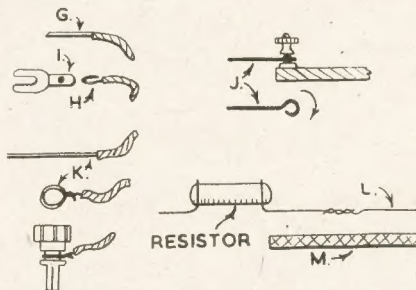

Fig. 3—Making proper connections
Good joints throughout are essential in any receiver. To fix spade-ends for accumulator connections, bare about $\frac{1}{2}$ in. of flex, as shown at (G) in Fig. 3. Then twist tightly and double back, insert in the spade, and tighten up the small screw (I). The doubled end (H) should be held firmly, or crackles, etc., may arise.